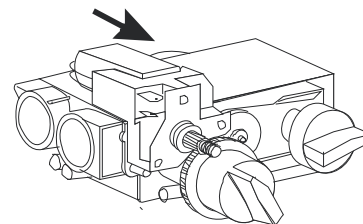
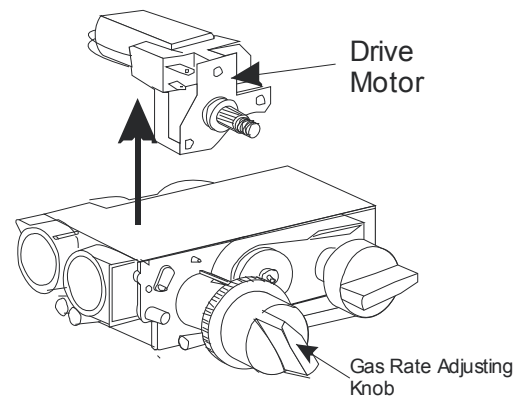

Figure 72
Figure 73
6. Turn the gas rate adjusting knob fully anticlockwise and gently manipulate the motor free from the valve (see note, **Figure 72** and **Figure 73**)